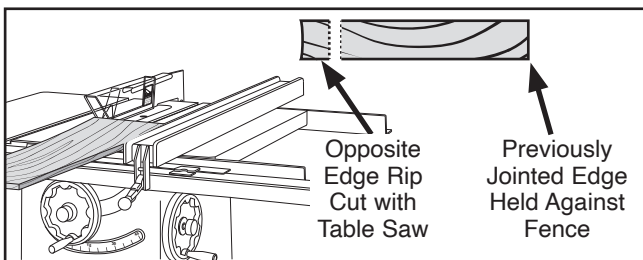

Figure 51. Rip cutting on a table saw.
2. Place jointed edge of 2x4 against table saw fence and rip cut just enough off opposite side to square two edges of 2x4, as shown in **Figure 51**.